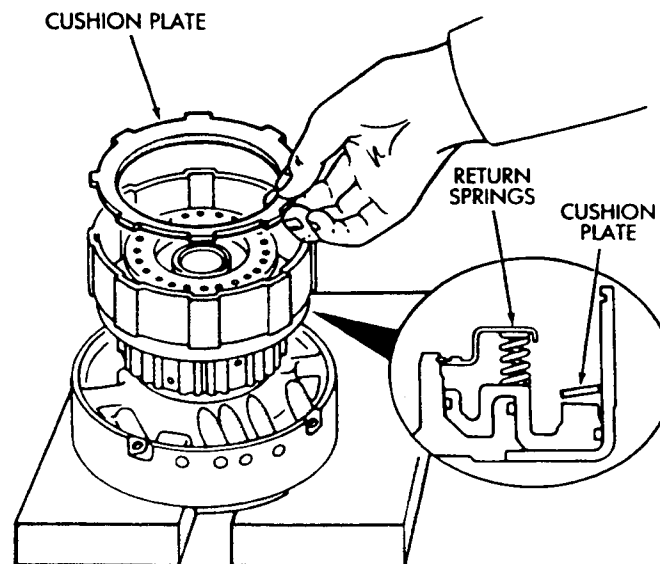

Fig. 5 Removing Cushion Plate
- (9) Remove clutch pack cushion plate (Fig. 5).
- (10) Compress clutch springs with tool B.Vi. FM. 27 and remove piston snap ring.
- (11) Remove spring compressor tool and piston return springs.